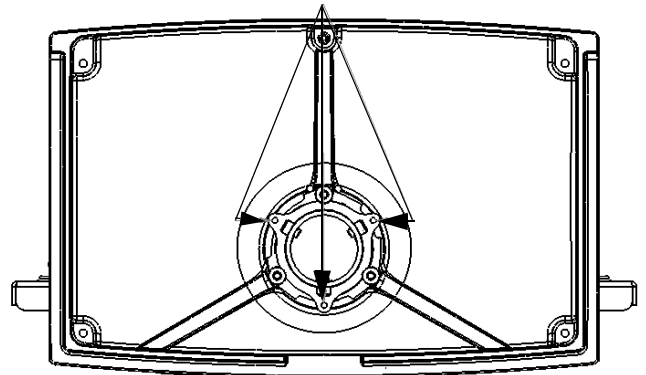

Figure 6. Swivel Stops (15, 25 or 35 Degrees)
1. If desired, insert the 10-24 X 1/2" Phillips head cap screw in one of the three swivel stop holes (15, 25 or 35 degrees) in the base of the stand (see Figure 6).